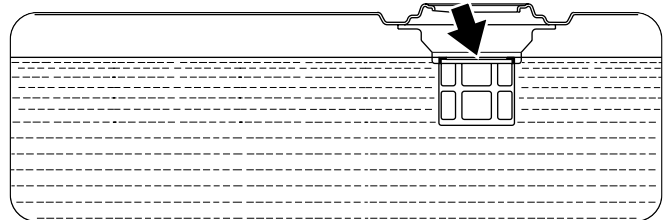

Figure 13 – Maximum Fuel Fill Level
6. Slowly add fuel into the fuel tank. Be very careful not to overfill the tank. The fuel level should NOT be higher than the bottom of the filler neck (see *Figure 13*).